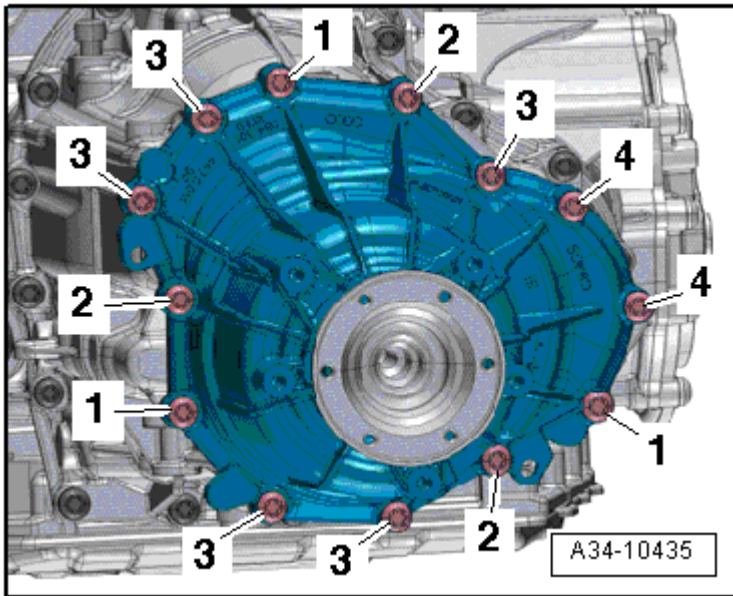

Fig. 21: Tightening Specification And Sequence, Center Differential Housing - Attached Driveshaft
- Tightening specification and sequence, refer to **Fig. 21**